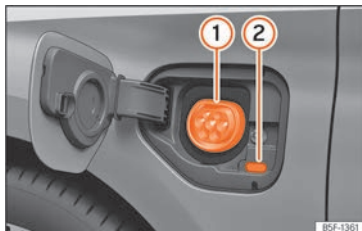

Fig. 213 Behind the battery charging cover on the front left-hand side: Charging socket
» **Fig. 213**
- With the vehicle unlocked, the battery charging cover opens when it is pressed » **Fig. 213.**